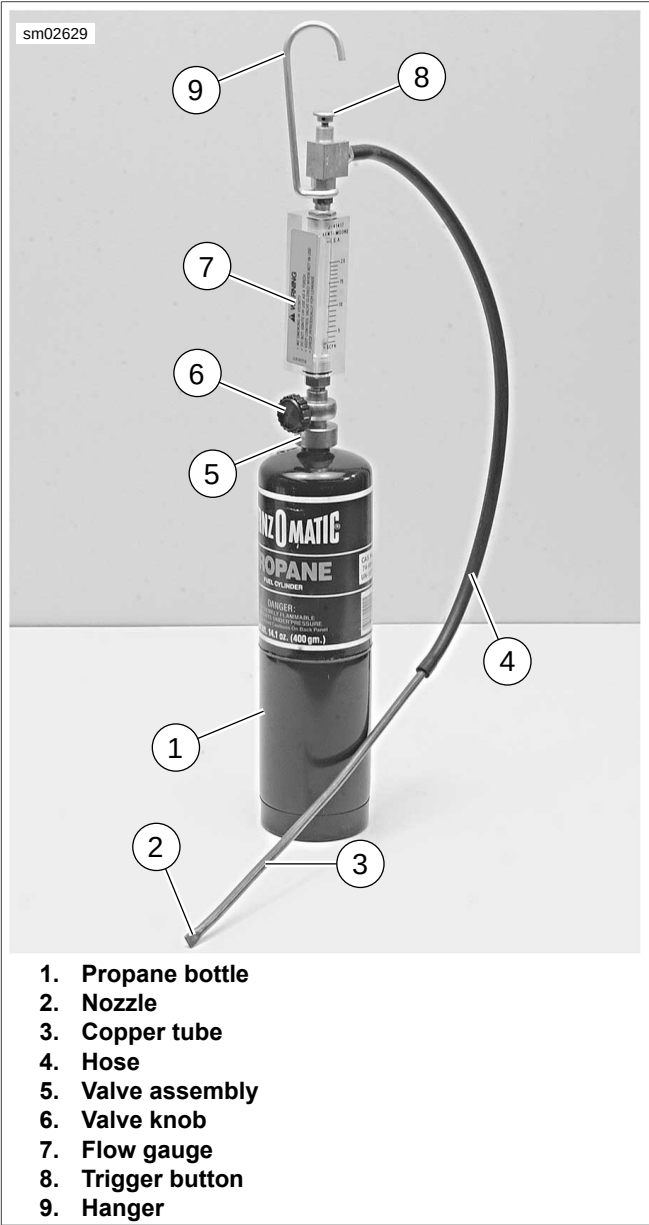

Figure 4-51. Leak Tester
1. See Figure 4-51. Make sure valve knob (6) is closed (fully clockwise).
2. Screw valve assembly (5) onto propane bottle (1).
1. See Figure 4-51. Press and hold trigger button (8).
2. Slowly open valve knob (6) until pellet in flow gauge (7) rises 5-10 SCFH on gauge.